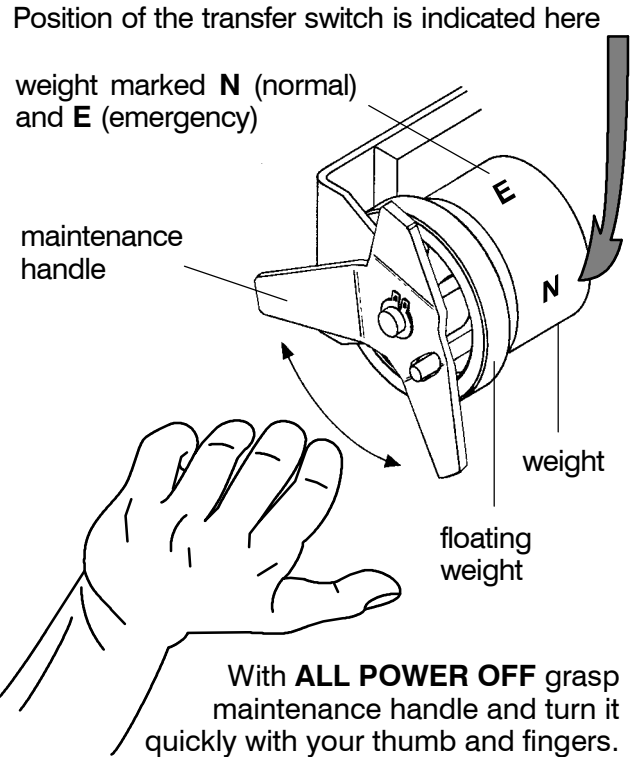

Figure 1-4. Maintenance handle and positions.
1. After deenergizing both power sources, open the enclosure door. Locate the maintenance handle on the left side of the transfer switch frame. See Figure 1-4.